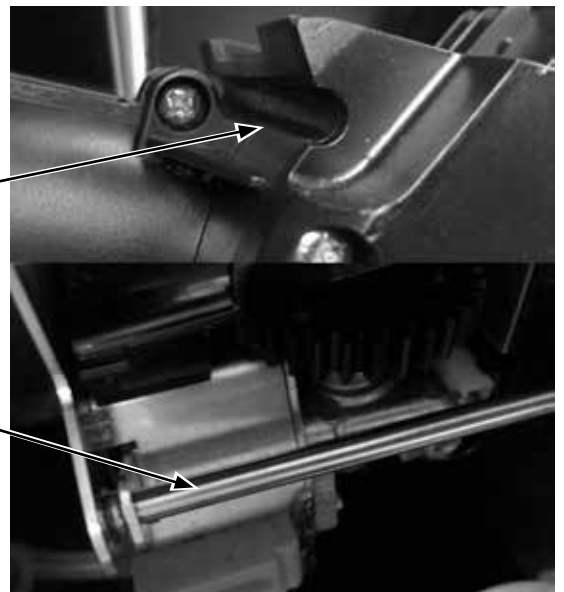

Figure 3
5. Place groove on lower front of group head over mounting bar on espresso drive as shown in Figure 3.